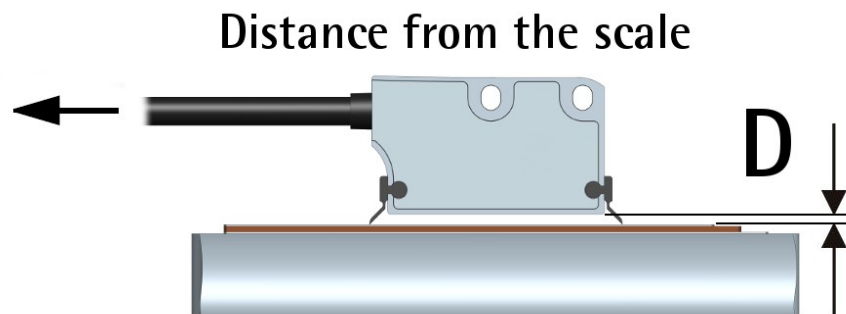
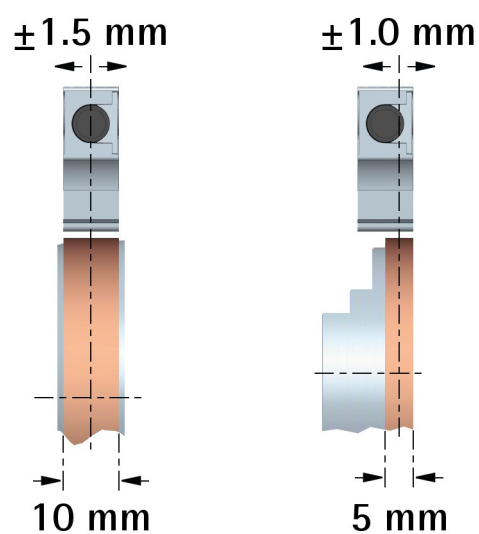
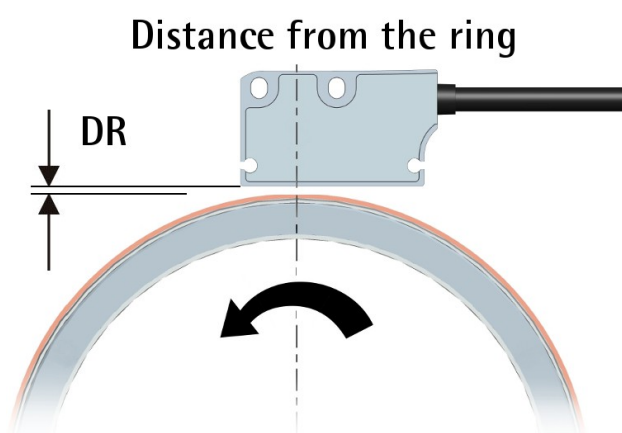

Figure 1 - Encoder / tape mounting gap
Figure 5 - Sensor / ring alignment
Figure 6 - Sensor / ring mounting gap
You can mount the readhead in both directions over the tape. The arrow in Figure 1 indicates the **standard counting direction** (the rising edge of A signal leads the rising edge of B signal) when the sensor moves in the direction indicated by the arrow; further information in the "4.6 Counting direction" section on page 23.
The distance D (see Figure 1) between the bottom of the encoder and the MTI magnetic scale must be as follows:
When the sensor is installed on magnetic rings having a 10 mm / 0.4" wide magnetic surface, line up both the sensor and the ring on the central axis. When magnetic rings having a 5 mm / 0.2" wide magnetic surface are used, line up the sensor and the ring as shown in Figure 5; please consider that the incremental sensor is located laterally in the sensing head. With 5 mm rings the mounting direction of the ring makes no difference (but ascertain that the sensor is properly aligned on the correct side!).
To learn about the mounting tolerances refer to the tables below as well as to Figure 5 and Figure 6.
The positive counting direction (the rising edge of A signal leads the rising edge of B signal) is achieved when the sensor moves on the tape according to the arrow shown in Figure 1; or when the ring turns according to the arrow shown in Figure 6. For further information see the "4.6 Counting direction" section on page 23.
3.11 Optional cleaning wipers (Figure 1)
The **standard counting direction** (the channel A leads the channel B) is to be intended with sensor moving as shown in Figure 1 in a linear application; with ring turning as indicated by the arrow in Figure 6 in a rotary application.
By default the phase relationship between A and B channels is so that the rising edge of A channel leads the rising edge of B channel when the encoder moves in the direction shown by the arrow in Figure 1 in a linear application; or when the ring turns as indicated by the arrow in Figure 6 in a rotary application (see the "4.5 AB0, /AB0 output channels" section on page 23). Thus the counter in the subsequent electronics will get a count up. It cannot be changed.